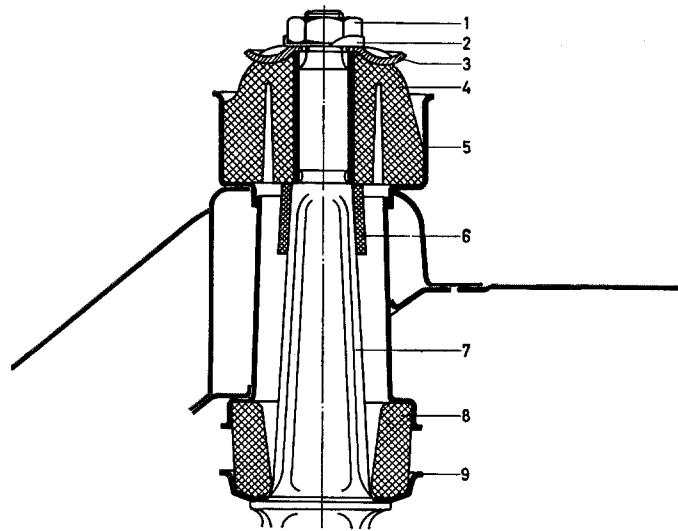

Fig. 35-1/6
In order to reduce chassis noises on the rear axle suspension on Models 190 D and 190 Db the upper rubber mountings and the lower rubber rings have a lower Shore hardness than those on the other models. In a few isolated cases knocking noises have been heard when the car is being driven away at high speed since the support of the rear axle suspension strikes against the chassis base panel. To prevent these noises on the rear axle support a rubber ring (6) Part No. 121 351 02 86 has been installed as a standard part on recent cars of Model 190 Db (see Fig. 35-1/6).